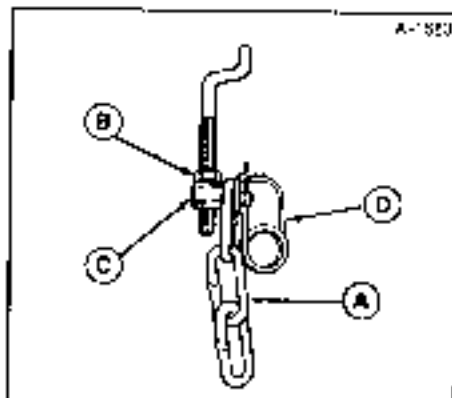

Figure 39. Lift Assembly - Large Lift Lever
4. To adjust, disconnect trunion (C, figure 39) from chain by removing clip (D). Loosen the nut, and turn it a few turns to raise or lower mower. Tighten nut when measurement is correct.